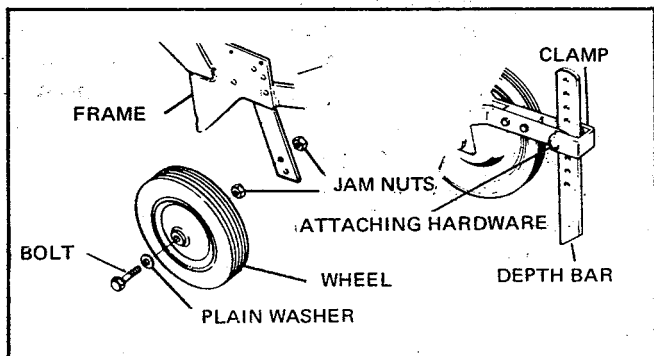

Figure 2
7. Tilt the Tiller forward and rest it on its engine. Insert the two (2)  $\frac{1}{2}$ "-13 x  $\frac{3}{4}$ " long capscrews with the  $\frac{1}{2}$ " plain washers on the outside of the wheel, in the wheels. Install the two (2)  $\frac{1}{2}$ " jam nuts on the wheels. Insert the wheel assembly in the upper hole on the frame upright and secure with the two (2)  $\frac{1}{2}$ " jam nuts. Tighten the jam nuts and insure the wheels turn freely with little wobble. See Figure 2. Adjust the wheel scrapers to clear the wheels  $\frac{1}{8}$ ".
8. Install the depth bar and clamp with the round end of the depth bar toward handle and secure with the pin and clip supplied in the hardware pack. See Figure 2.
9. Install cover over frame assembly behind engine and secure with four (4) screws.